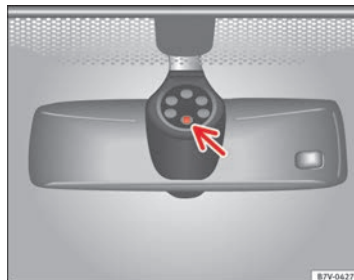

Fig. 69 Rain sensor sensitive surface
Possible causes of faults and mistaken readings *on the sensitive surface* ⇒ Fig. 69 of the rain sensor include:
- Clean the sensitive surface of the rain sensor regularly and check the blades for damage ⇒ Fig. 69 (arrow).